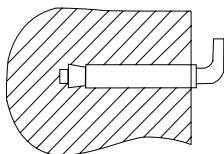
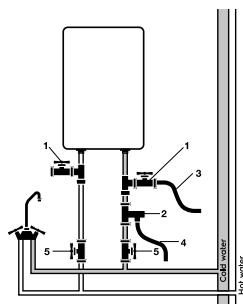

Fig. 4. Mounting anchor for mounting.
Fig. 5
- The pressure vent on the pressure relief valve (item 3 in Fig. 5) Install a drain tube and lead it to the sewer in case water is drained and excessive pressure is relieved*. The drain tube connected to the pressure outlet must point downward.
A tee can be provided for the drain with a valve between the valve and the sleeve (item 1, fig. 5).
- Connect the drain hose (item 3 in Fig. 5) to the shutoff valve.
on a solid vertical surface (wall). The installation of GLD ECO EEC series water heaters is greatly facilitated by the possibility to install them both vertically and horizontally anywhere in your home, in a heated (!) room. It is advisable to install the heater as close as possible to where the hot water is used, because the shorter the length of the pipes, the less heat is lost. As shown in Fig. 5. When installing the heater close to a wall, leave the recommended clearance for maintenance. Do not install the heater on a horizontal surface and up against the floor. After selecting the mounting location, locate the two fastening bolts with hooks (depending on the specifications of the selected product). Make two holes in the wall to the required depth corresponding to the size of the mounting bolts, insert the screws, rotate the hook upwards, tighten the nuts firmly and then install the electric water heater on it (see Fig. 4). If the bathroom is too small to accommodate the water heater, it can be installed in any other room, protected from direct sunlight and rain.
tem for several water points, use the connection method (see Fig. 5).